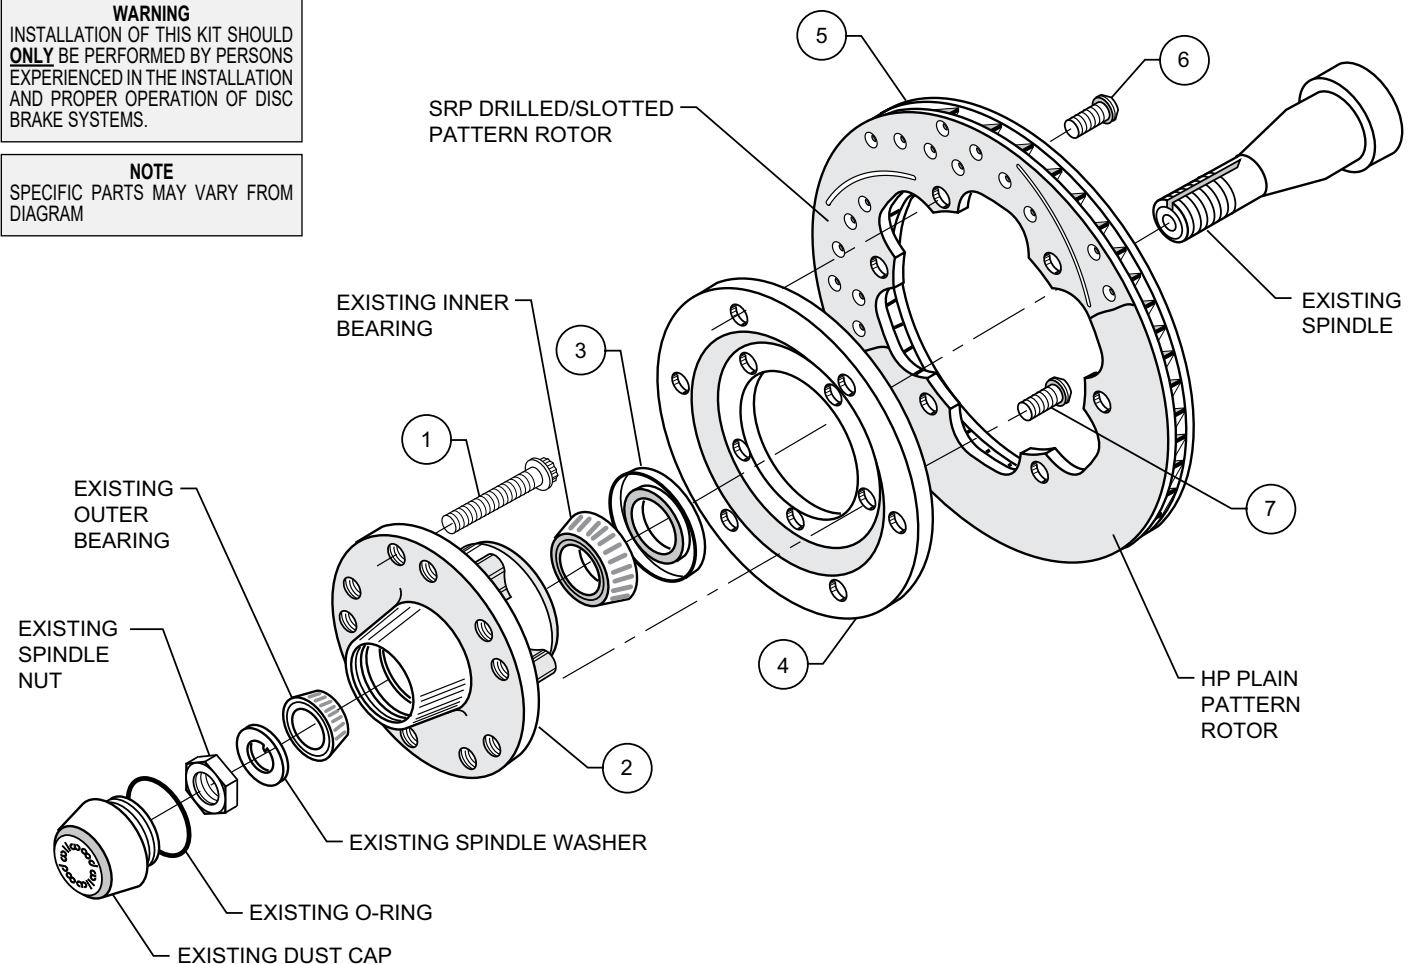

Figure 1. Typical Installation Configuration
**NOTE:** Numbers in parenthesis refer to the parts list and Figure 1 on the preceding pages.
- Install wheel studs (1) into the hub (2). Torque to 77 ft-lb. **NOTE:** There are two five lug patterns in the hub (5 x 4.50 and 5 x 4.75). Make sure of the correct hole pattern for the correct wheel application before installing studs into hub.
- Pack the large inner bearing cone (use existing) with high temperature disc brake bearing grease (available from your local auto parts store) and install into the backside of the hub (2).
- Install the grease seal (3) by pressing into the backside of the hub (2).
- Orient the rotor (5) and the rotor adapter (4) as shown in Figure 1. Attach the rotor to the adapter using bolts (6). Apply red *Loctite*® 271 to the bolt threads and torque to 25 ft-lb using a criss-cross pattern.
- Mount the adapter/rotor assembly (4/5) to the hub (2) using bolts (7), as shown in Figure 1. Apply red *Loctite*® 271 to the bolt threads and torque to 45 ft-lb using a criss-cross pattern.
- Pack the small outer bearing cone (use existing) with high temperature disc brake bearing grease and install into front of hub (2). Slide the hub/rotor assembly (2 and 5) with outer bearing cone onto the spindle. Secure using spindle washer (reuse existing), stock adjusting nut and nut locking device. Adjust bearings per Original Equipment Manufacturer (OEM) specifications.
- Install the existing dust cap onto the hub (2). Friction created by the o-ring (reuse existing) on the dust cap keeps it from unscrewing. The O.D. of the spindle washer may be larger than the I.D. of the dust cap not allowing it to seat against the hub face. Some grinding on the washer O.D. may be necessary to clear the I.D. of the dust cap.